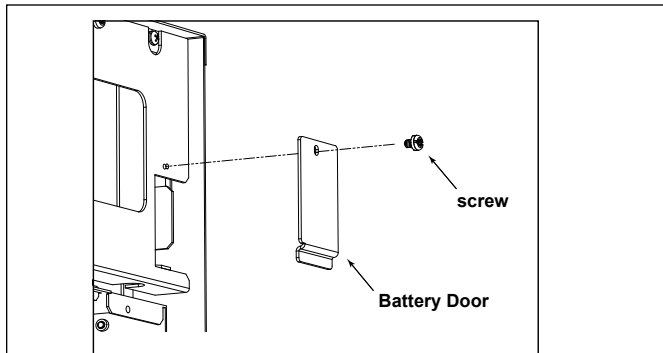

Figure 3. PureLink Power Center Battery Door
1. Remove the screw from battery door. See Figure 3.